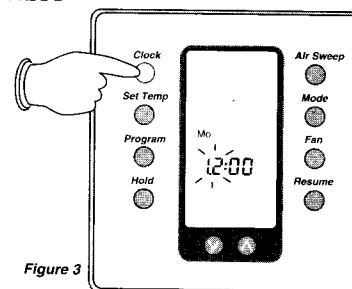

Figure 3
STEP 3: Press and release the CLOCK button. Display will flash the hour (12:). Figure 3